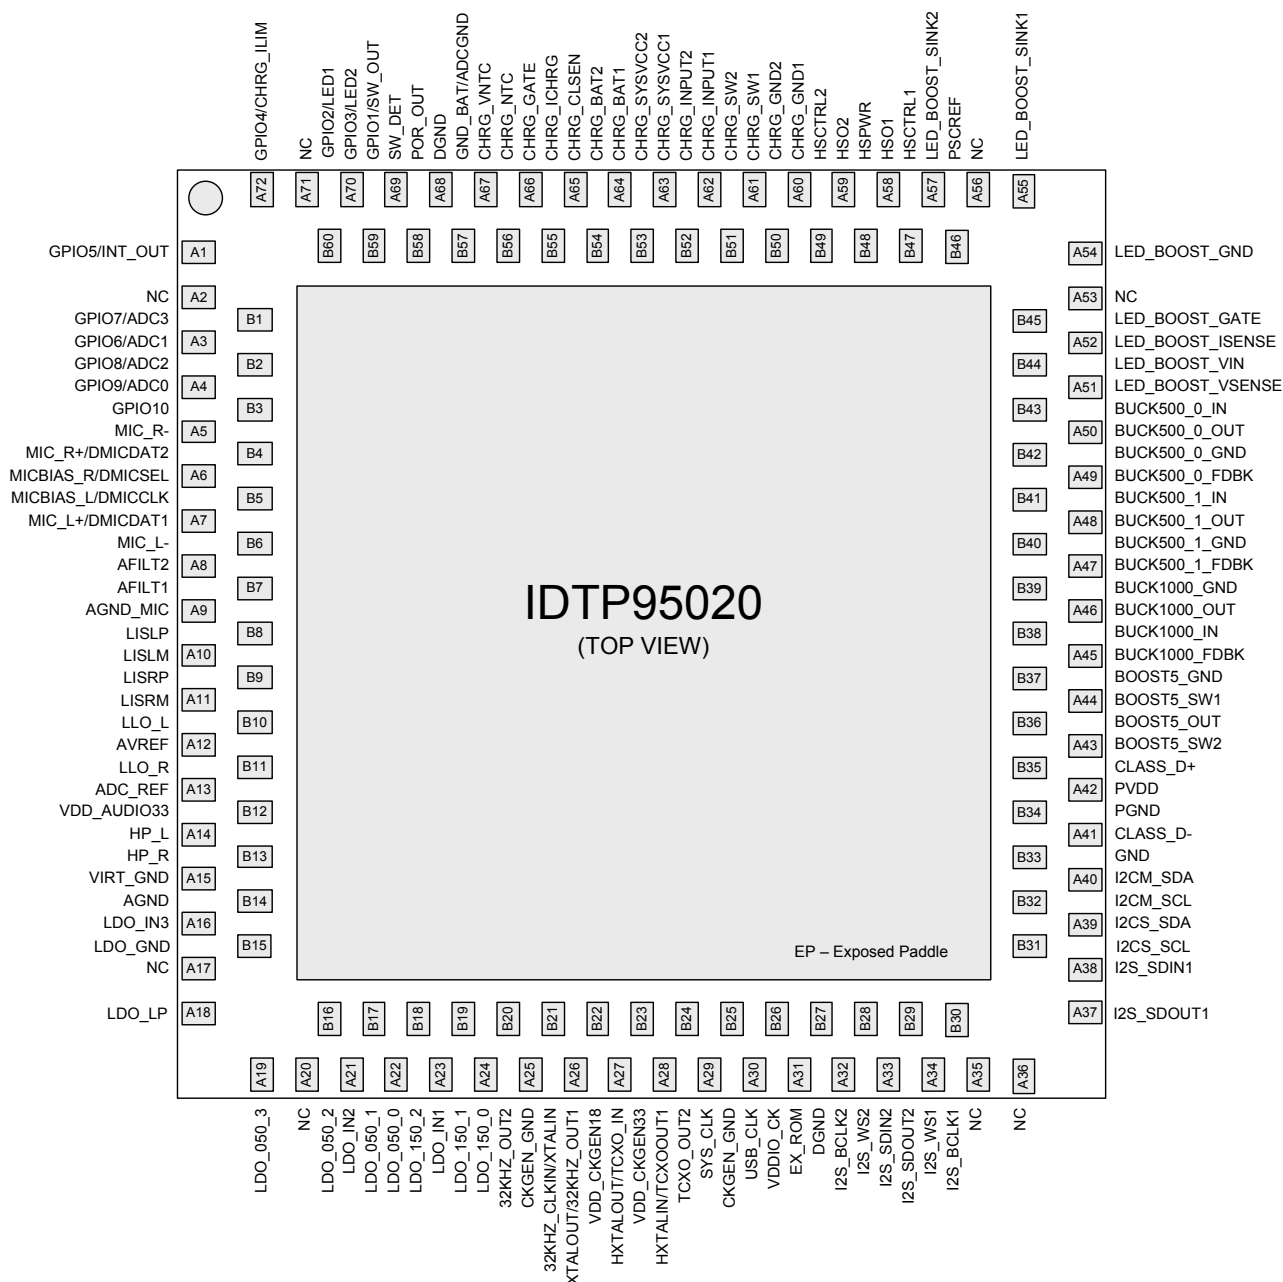

Figure 2. IDTP95020 Pin Configuration (NGQ132)
**Table 9 - NQG132 Pin Functions by Pin Number (see Figure 2)**